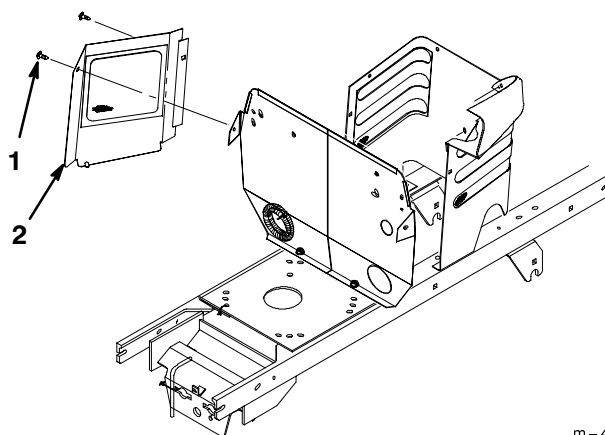

Figure 3
1. Remove bolts and side panel from tractor (Fig. 3).
2. Remove the bolts and foot panel from tractor (Fig. 3).